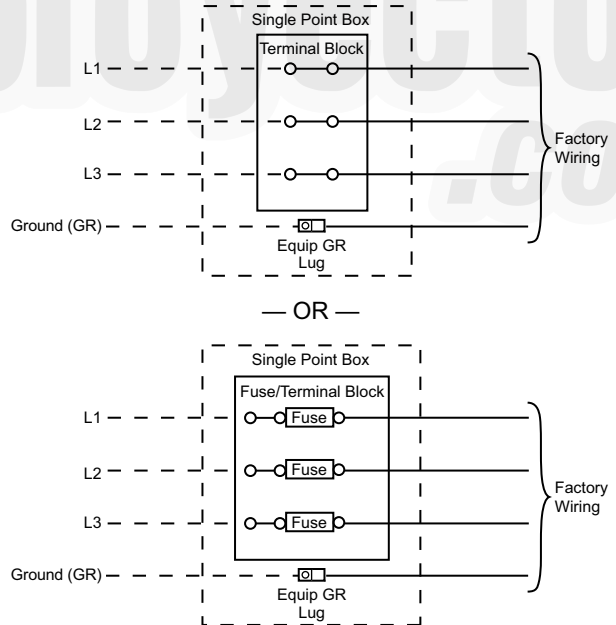

Fig. 36 — Power Wiring Connections
2. Install power lines to terminal connections as shown in Fig. 36.